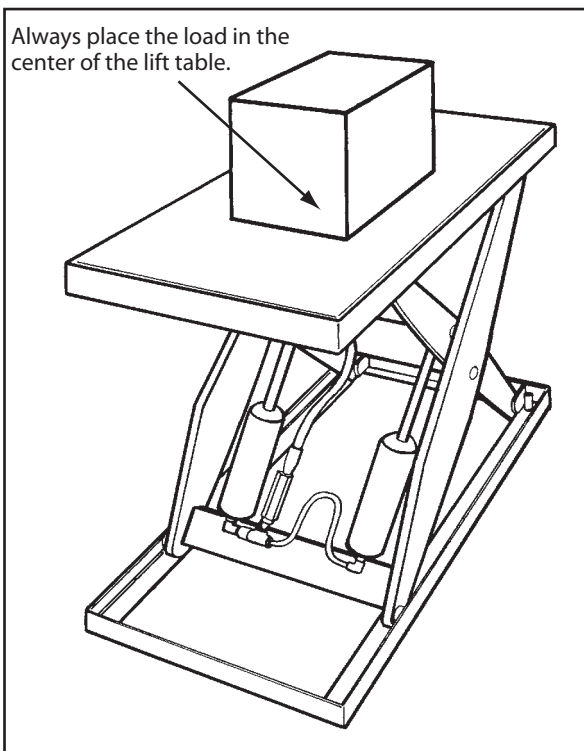

Figure 3 – Center the Load
- Place the load in the center of the lift table, as shown in Fig. 3.